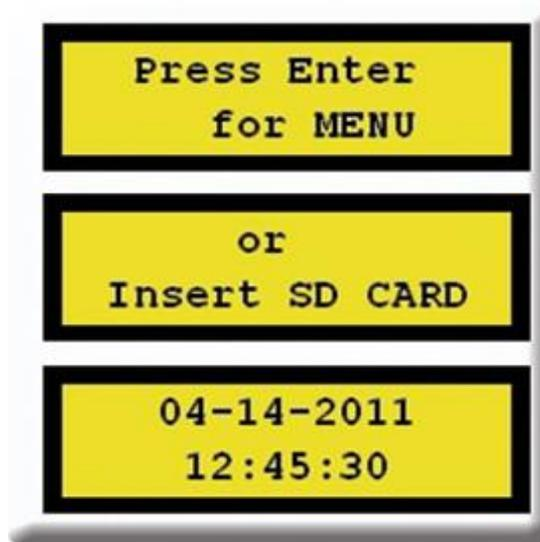

Figure 1 – Main Menu
A) When powered on, the data recorder's LCD screen will display the "Main Menu" similar to Figure 1, below. Check the time and date listed.